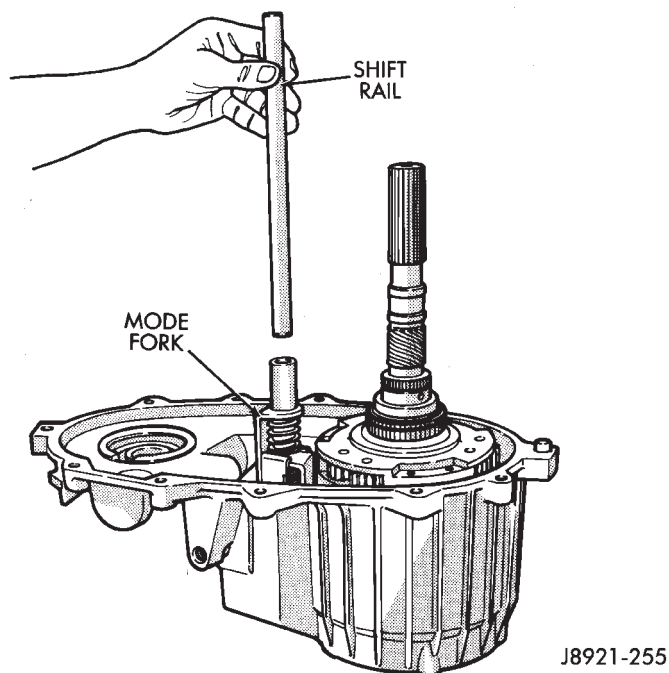
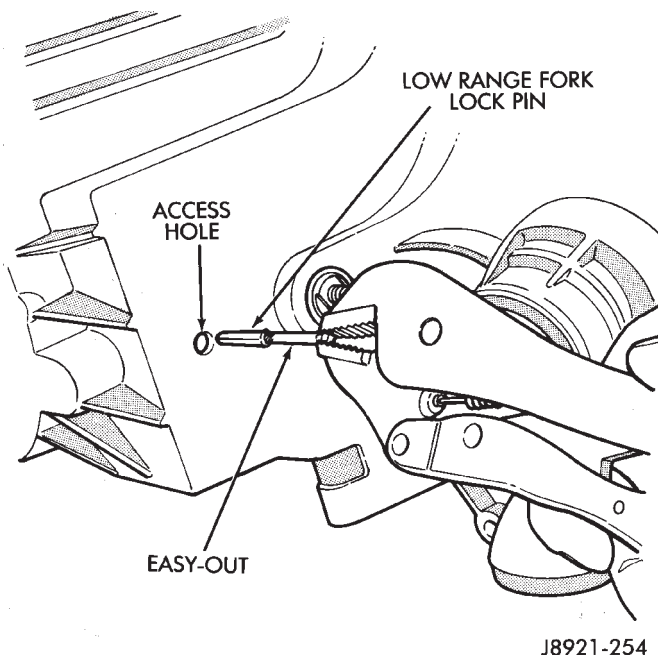
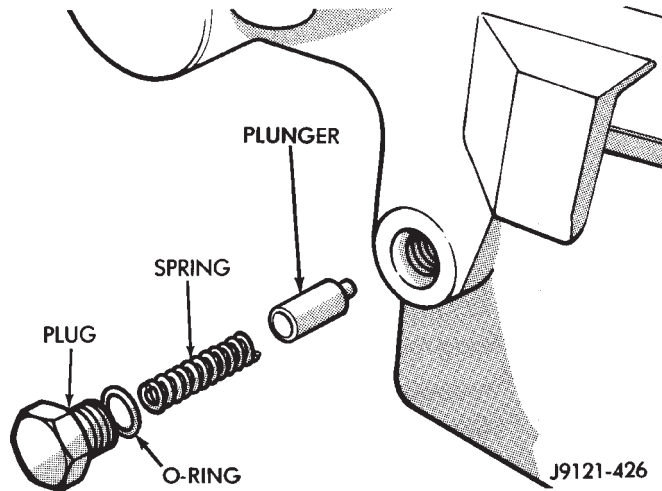

Fig. 65 Installing Shift Rail
Fig. 66 Installing Low Range Fork Lockpin
Fig. 67 Installing Detent Pin, Spring And Plug
(42) Rotate mode fork pin into shift sector slot.
(43) Install shift rail (Fig. 65). **Be sure rail is seated in both shift forks.**
(44) Rotate shift sector to align lockpin hole in low range fork with access hole in case.
(45) Insert an easy-out in range fork lockpin to hold it securely for installation (Fig. 66). **Lockpin is slightly tapered on one end. Insert tapered end into fork and rail.**
(46) Insert lockpin through access hole and into shift fork (Fig. 66). Then remove easy-out and seat pin with pin punch.
- (47) Install plug in lockpin access hole.
- (48) Install transfer case shift lever and attaching nut. Tighten nut to 30 N•m (22 ft. lbs.) torque.
- (49) Install detent plunger, detent spring and detent plug in the case (Fig. 67).